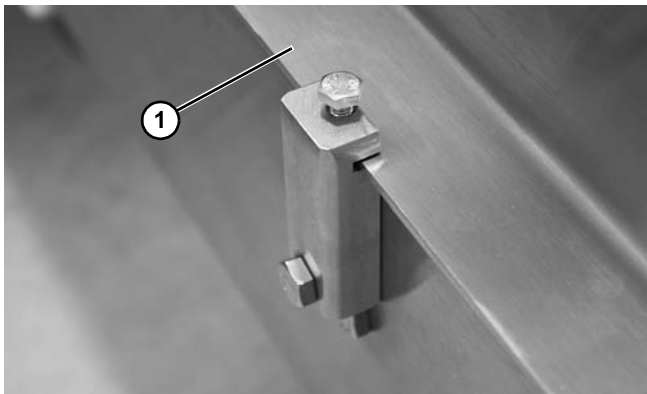

Figure 45
1. Remove guides (Figure 45, item 1) when required.